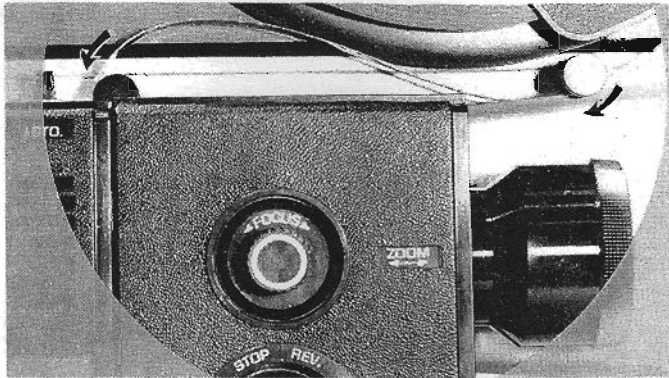

FIG. 7
3. Bring end of film down from supply reel and under film guide (Fig. 7).
4. With projector in OFF position, feed about two inches of trimmed film into the threading slot (Fig. 7).